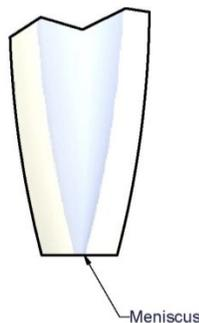
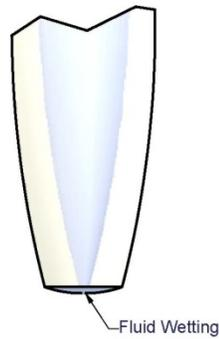

Figure 2 - Meniscus location
Figure 3 - Fluid wetting the tip
- Adjust the back pressure until the fluid meniscus is flush with the face of the orifice (See Figure 2). If the back pressure is too low, the fluid will be pulled in the reservoir and bubbles will be observed in the reservoir as air is drawn into the device. If the pressure is too high, the fluid will wet the face of the orifice and form a bead or drip (See Figure 3).